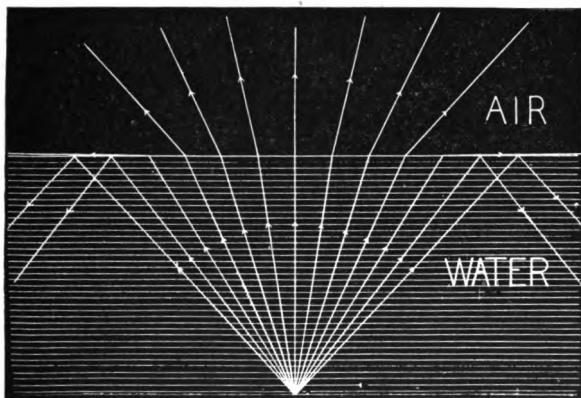

FIG. 78.—TOTAL INTERNAL REFLECTION
**114. Total Internal Reflection.** When light waves pass from a medium outwards into a less dense one, as from glass or water into air, they follow the reverse action in regard to refraction, up to a certain limit. As the angle increases (Fig. 78) a condition is reached in which the ray upon emerging passes parallel to the surface. A ray making a greater angle than this last one is reflected from the under surface just as from a